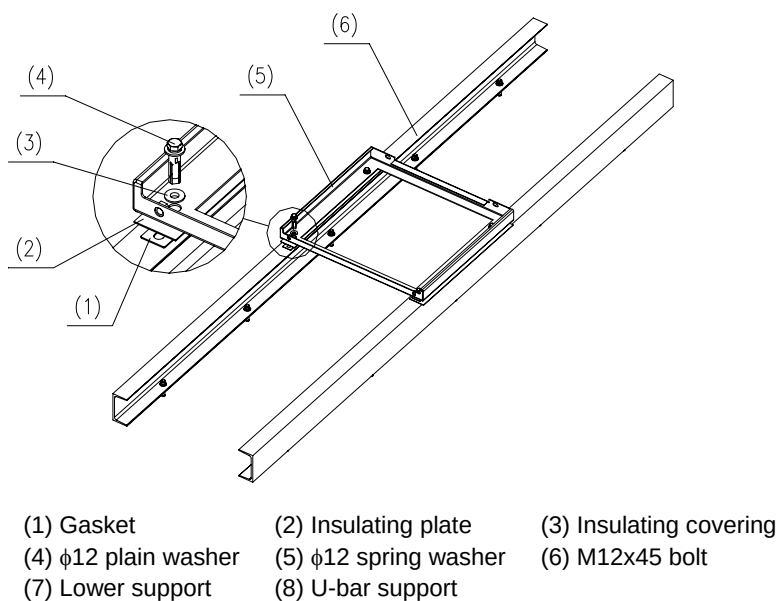

Figure 2-19 Installing the lower support
- 6) Put the spring washer, plain washer, and insulating covering on the M12×45 bolt one by one. See Figure 2-19.